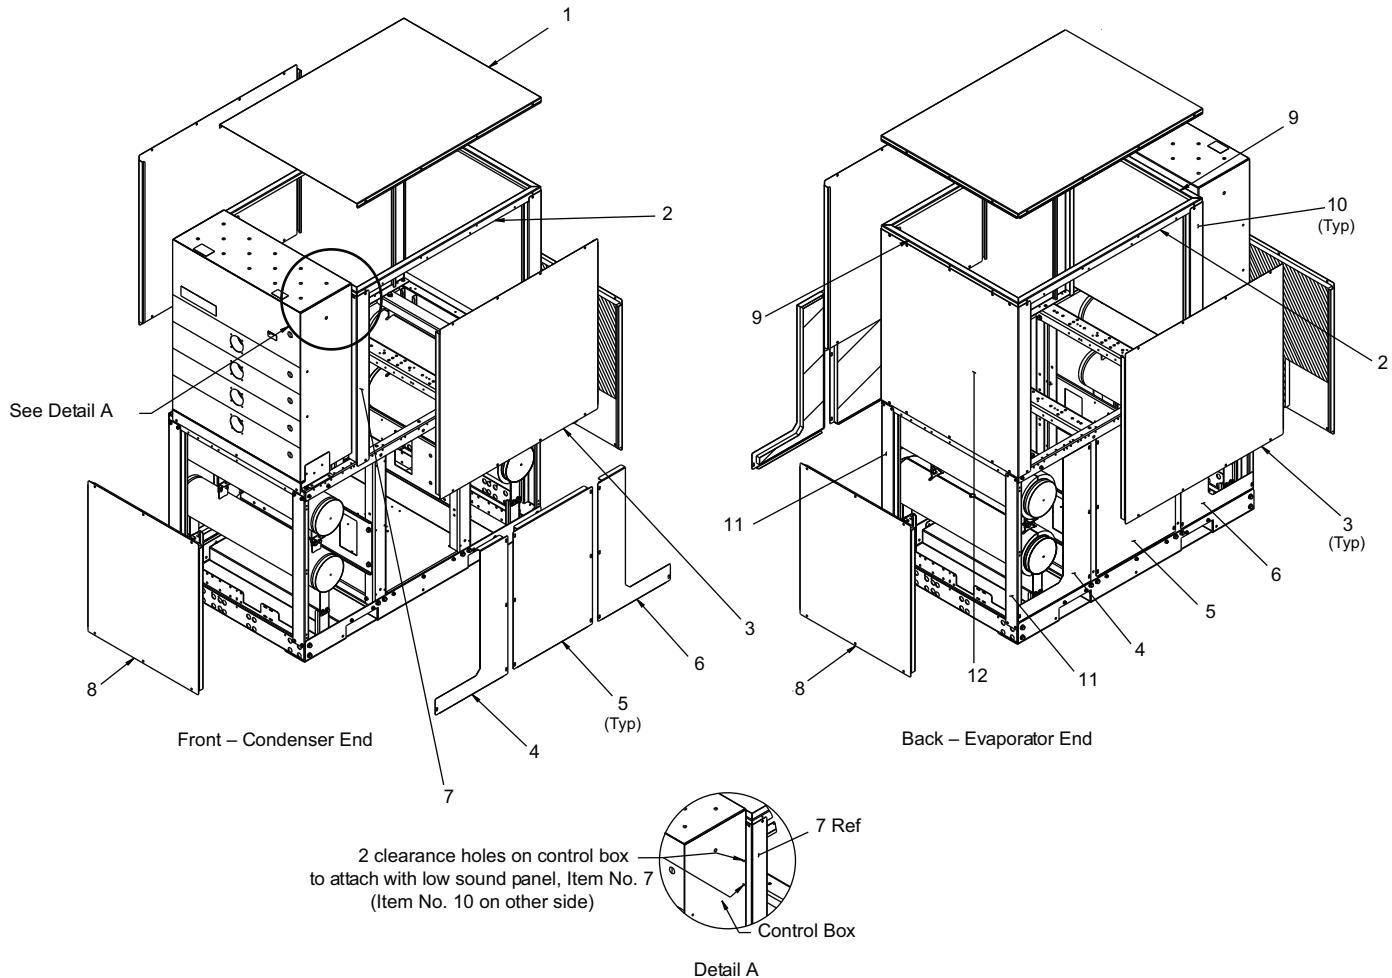

Fig. 2 — 30MPEA and MPEW Units
NOTE: See Fig. 2 for item number locations.
Install two corner posts to the unit corners. Install with the screws provided. Two corner posts are installed under the control box end from the factory. See Fig. 2, Item 11 and Table 3 for item locations and descriptions.
2. Install right and left corner panels to control box and frame, in same manner as the gussets removed in Step 1. See Fig. 2, Items 7 and 10.
3. Install rear panel to frame on evaporator end of unit. See Fig. 2, Item 12.
4. Install side and front/back top channels (see Fig. 2, Items 2 and 9) inside the corner panels installed in Step 2. See Fig. 5-7 for channel and tab locations.
1. Install side panels (Fig. 2, Item 3) to upper frame.
2. Place top panel (Fig. 2, Item 1) over top frame and secure with screws provided.
3. Install 2 center panels. See Fig. 2, Item 5.
4. Install end panel for the unit size. See Fig. 2, Item 8.
5. Install left and right insulation assemblies. See Fig. 2, Items 4 and 6.